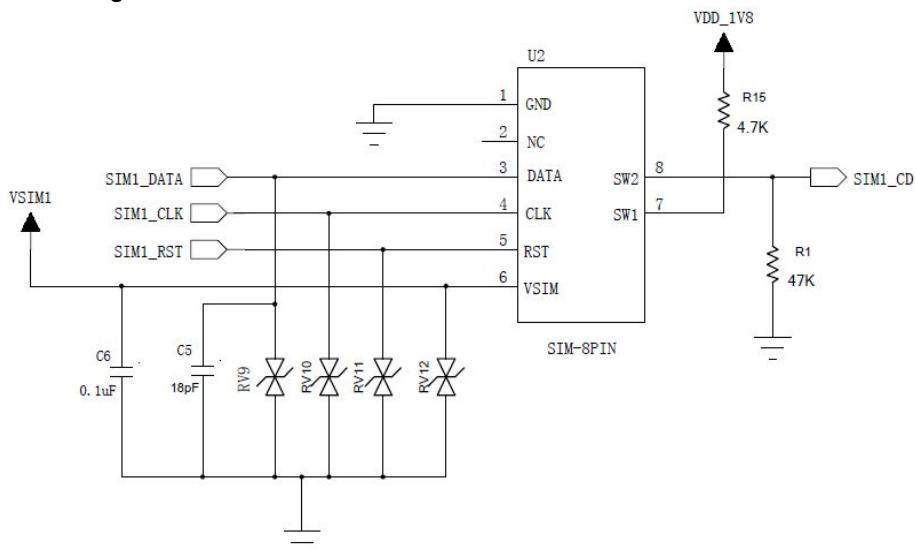

Figure 5-8 Reference Design of “Normally Closed” SIM Card Interface
- For “Normal opened” SIM card, as shown in the figure5-8, SIM1_CD signal line is connected to U2's